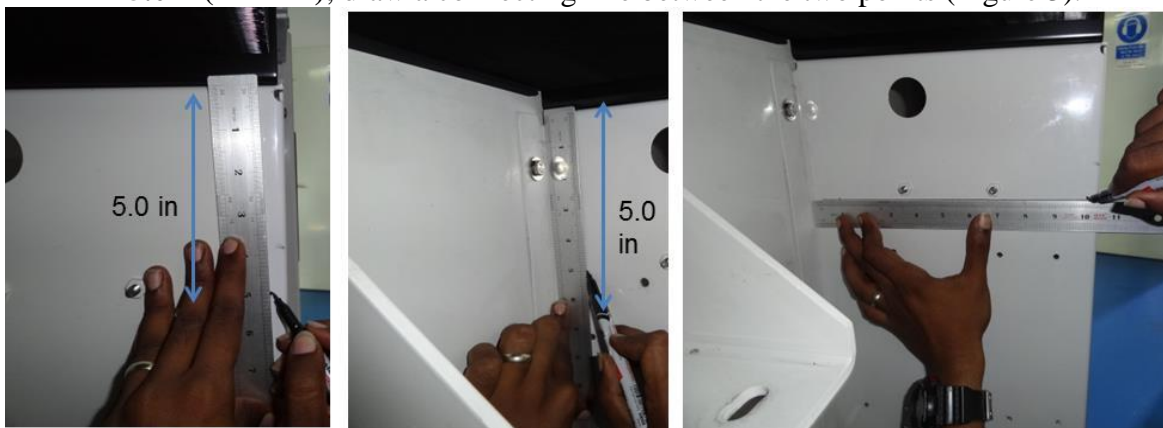

Figure 3
- From the top of the receiver mounting plate, measure and mark a point from a distance of **5.0in (127mm)**; draw a connecting line between the two points (Figure 3).